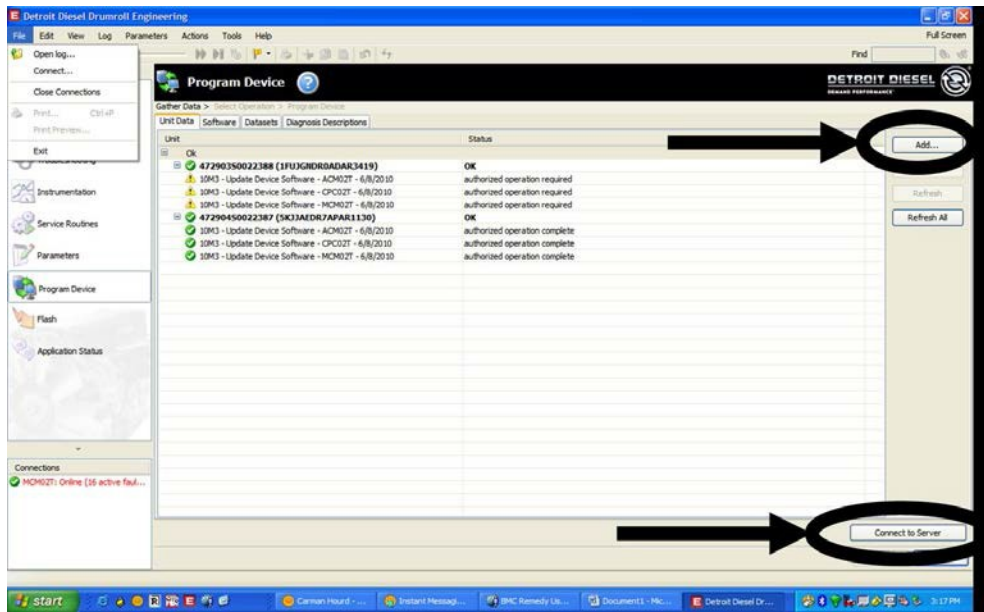

Figure 3 – Adding Engine Serial Number And Connecting To Server
9. Select the “Add” button in the upper right corner of the DiagnosticLink screen and enter the engine serial number. Then click the “Connect to Server” button in the bottom right corner of the DiagnosticLink screen. See Figure 3.